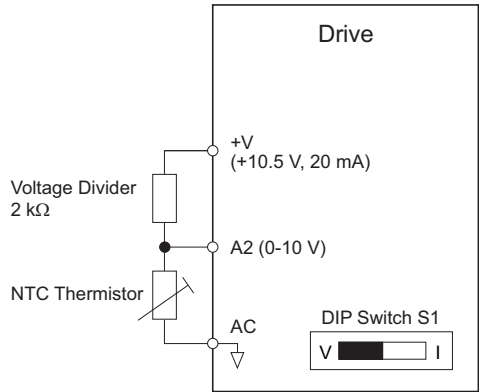

Figure 5.93 Motor Protection Circuit using NTC Input
**Figure 5.93** shows a circuit using the NTC thermistor and the terminal resistance values. Set DIP switch S1 on the drive to "V" for voltage input when wiring the NTC thermistor input to terminal A2 on the drive.